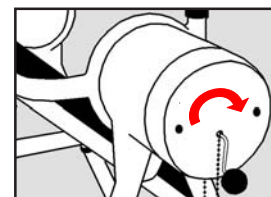

Figure 6
- If a power failure occurs, please remain calm. Reach for the Manual Crank attached to the Motor Housing (See Figure 6).